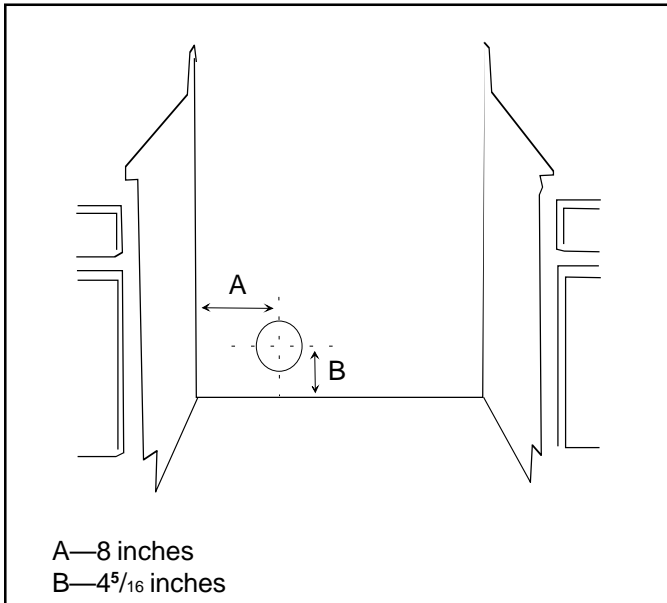

Figure 15
1. See Figure 15. Locate studs in wall.